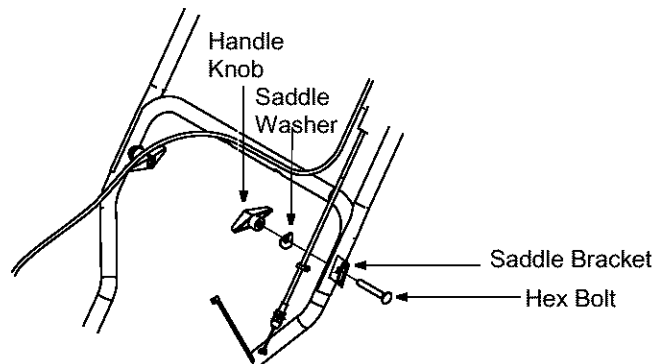

Figure 2
2. Loosen the handle knob, saddle washer and saddle bracket on each side of the handle. See Figure 2.
4. Tighten the handle knobs on each side of the handle. Refer to Figure 2.